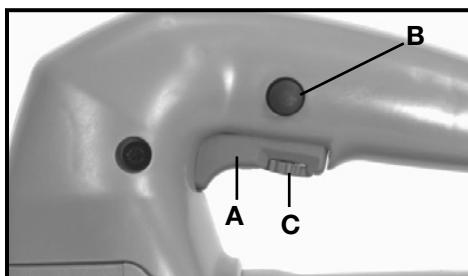

Fig. 5
1. Squeeze trigger switch (A), Fig. 5, to start motor. Release trigger to stop motor.
2. Lock Button – A lock button (B), Fig. 5, is provided to keep the saw running without holding the switch trigger “ON”. To lock the switch trigger “ON”, squeeze the trigger as far as it will go and push in the lock button and release trigger.
This saw is equipped with an adjustable variable speed control and the speed range is 500 to 3100 SPM. The speed is adjusted by turning the control knob (C), Fig. 5. The speed control may be adjusted with or without the motor running.